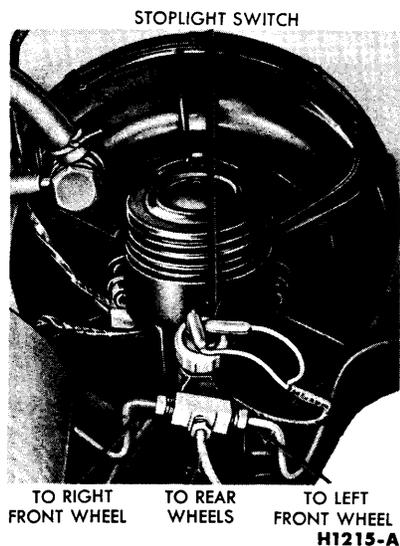
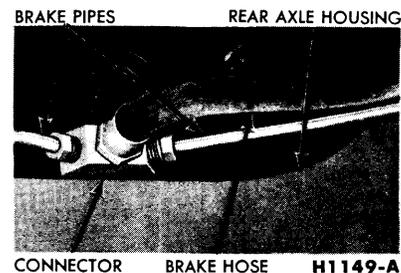

FIG. 2—Brake Master Cylinder Installed
FIG. 4—Rear Brake Pipe Connector
1. Disconnect the two wires from the stop light switch at the brake master cylinder (Fig. 2).
Hydraulic lines of steel run from the pipe fitting at the master cylinder (Fig. 2) to the front and rear brake hoses and from the rear brake pipe connector (Fig. 4) to the rear brake cylinders. Flexible hoses connect the brake pipes to the front brake cylinders and to the rear brake pipe connector.